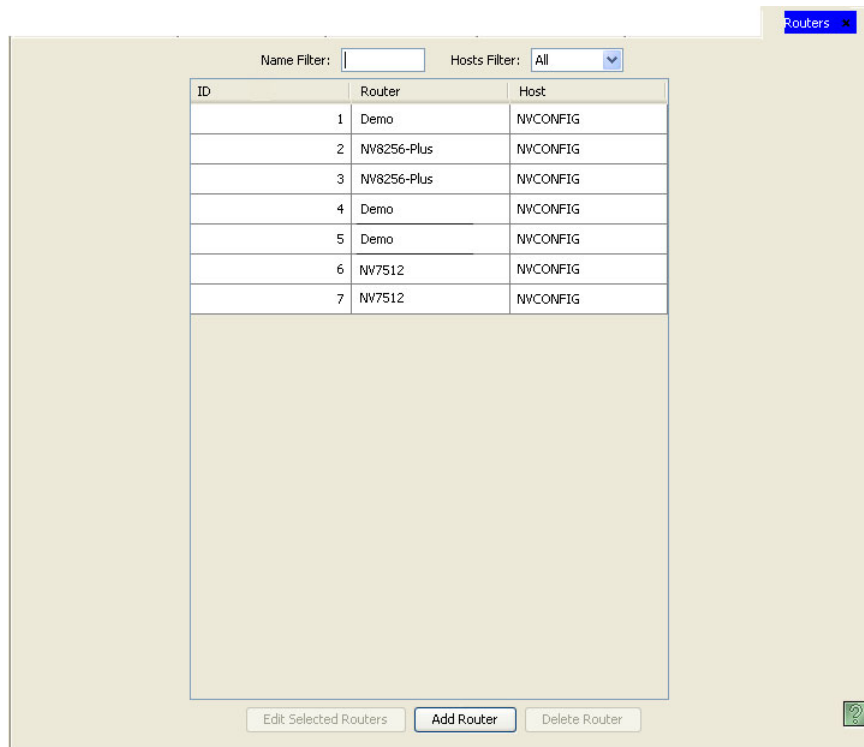

Figure 7-27. Routers Page
- 1 From the Navigation area, select the 'Configuration' pane and then 'Routers'. The 'Routers' page displays, as shown in Figure 7-27.